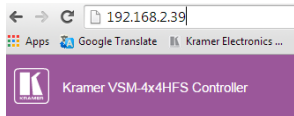

Figure 32: The Device Settings Page – IP Number Settings
- When changing the IP number, the change is immediate and the Web page reloads with the new IP number (see Figure 32).